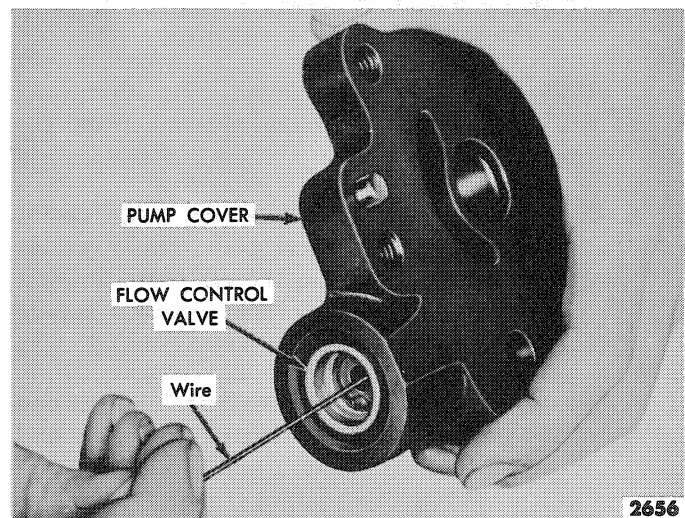

Figure 10—Pump Flow Control Valve Removal
16. Using a wire as shown in Figure 10, carefully pull the control valve out of the pump cover.